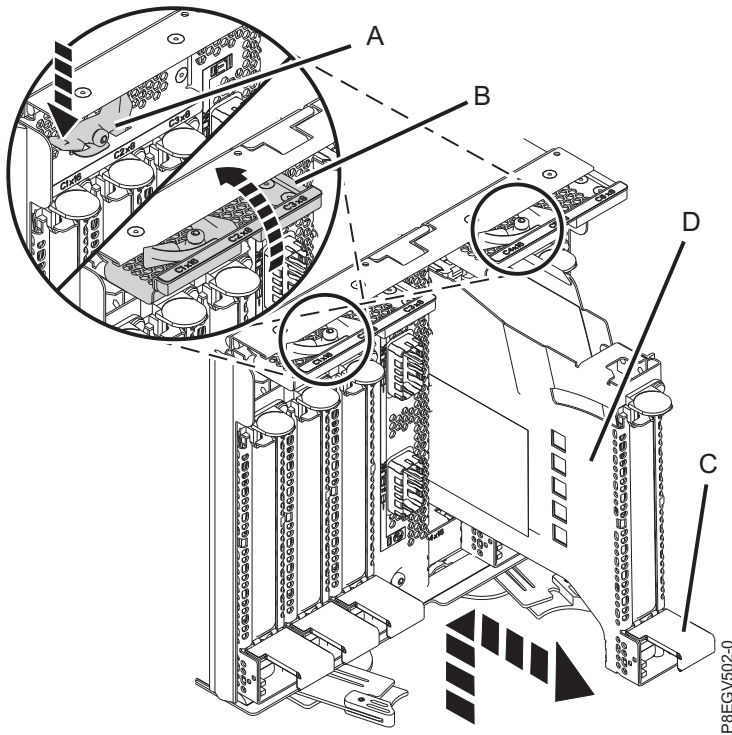

Figure 12. Removing a PCIe adapter cassette
- a. Release both latch doors (**B**) by pressing the latch levers (**A**) in the direction shown in Figure 12 on page 12. The latch doors (**B**) automatically rotate in the direction shown in Figure 12 on page 12.
- b. Lift the cassette handle (**C**) and pull out the cassette (**D**) from its slot as shown in Figure 12 on page 12.